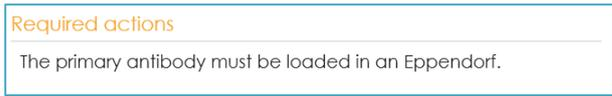

Figure 40) Example of a reagent allocation error in the Required actions.
3. A sentence describing an error in the reagent allocation might also appear in the Required actions (Figure 40). Go to the Reagent tab to remove the reagent wrongly allocated. Go back to the Home tab and re-allocate it to the correct reservoir through the Required actions to be able to run the loaded protocol.